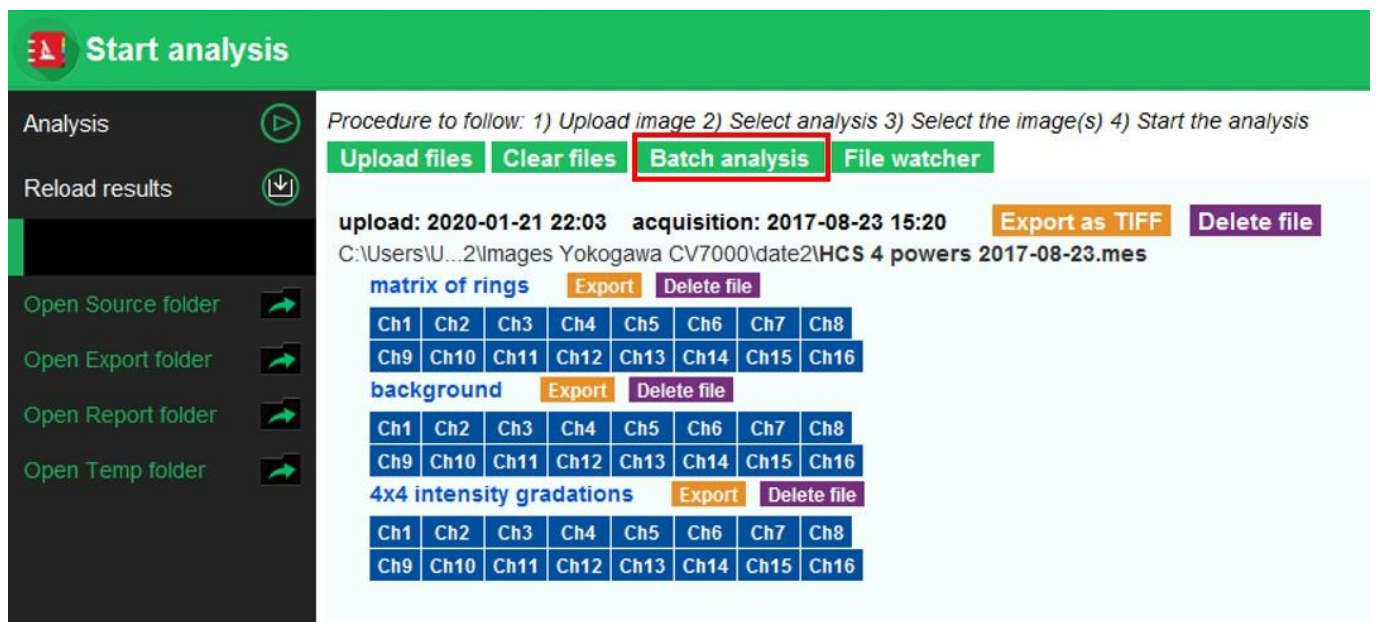

Figure 1: Batch analysis feature.
- b) Click on “Batch analysis” (cf. Figure 1).